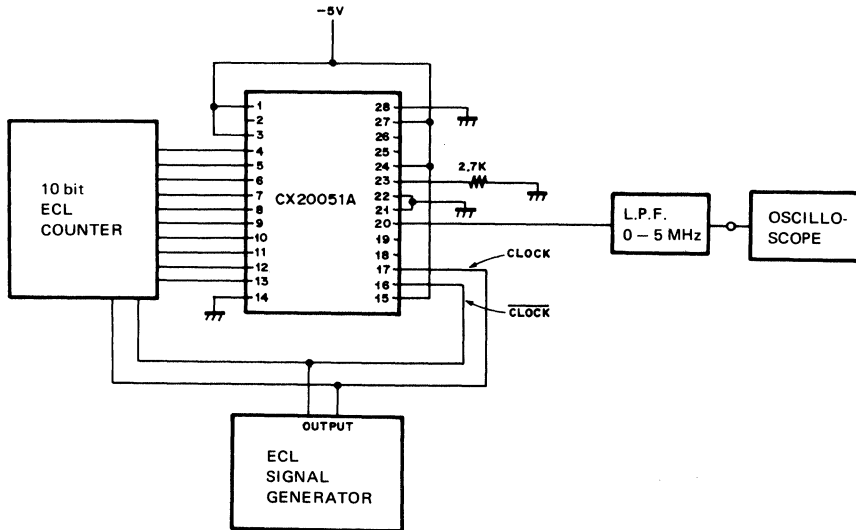

Fig. 2a Block diagram of differential linearity and maximum operating frequency test circuit
**Note)** As for the test circuit, see Fig. 2a to 2d.